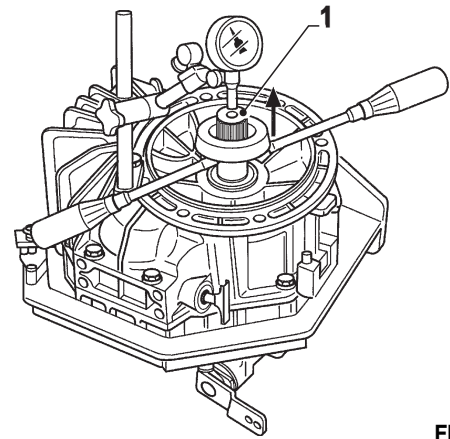

FIG. 5-4
- Fit clamping ring (tool p/n 219.354.3 (618582)) to the spline of the input shaft (item 1, Fig. 5-4).